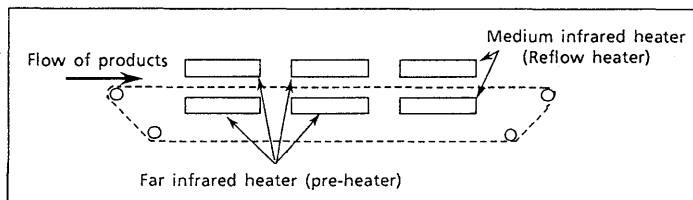

Fig. 6-1
1. Top and bottom heating is recommended with far and intermediate infrared. (Fig.6-1)